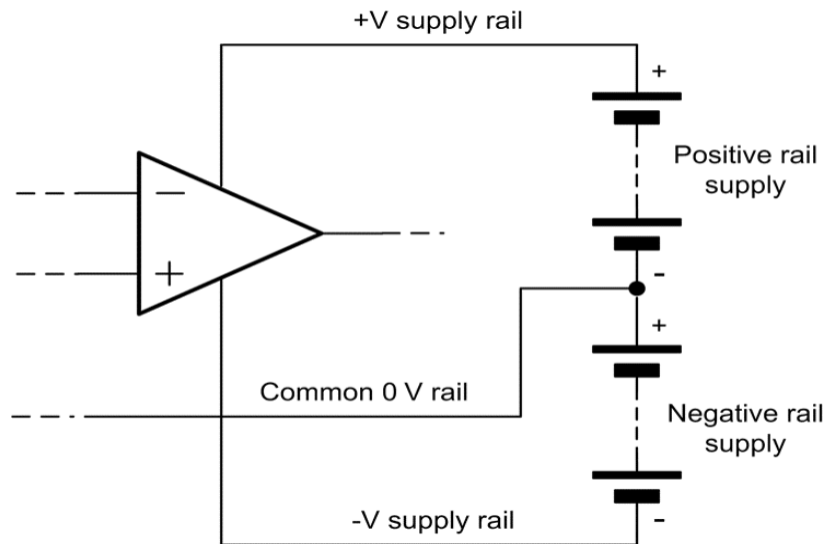

Figure 1.34 Supply connections for an operational amplifier
- Fig. 1.34 shows how the supply connections for an operational amplifier.